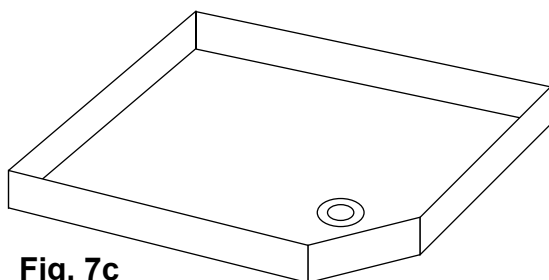
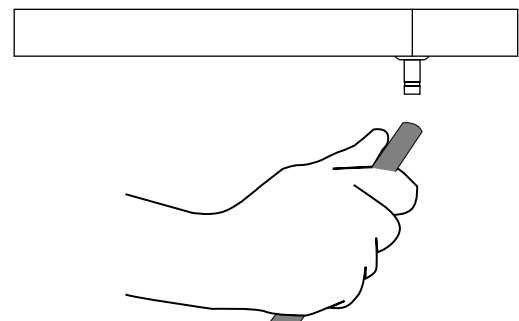

Fig. 7c
Fig. 7d
7.3 Take the 5/16 dia. plastic tube and push one end on the connector located at the bottom of the overflow pan. Please see Fig. 7c and Fig. 7d.